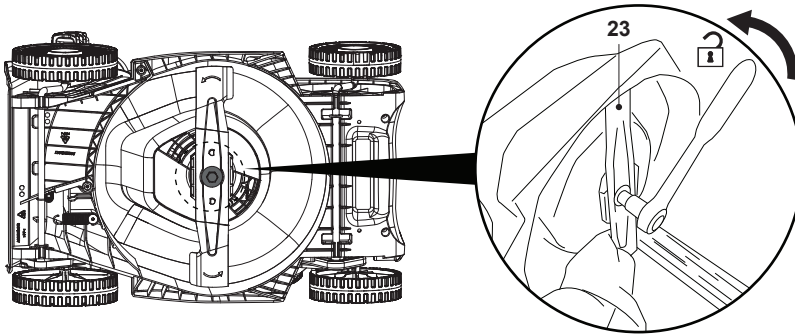

Fig. 19
NOTE: If a hand tool wrench or spanner is used instead of an electric impact wrench, the cutting blade (23) should be prevented from rotating while loosening the bolt. Wear heavy-duty gloves and grip the blade firmly. Use a good-size piece of wood to block the rotation of the blade if necessary (Fig 19).